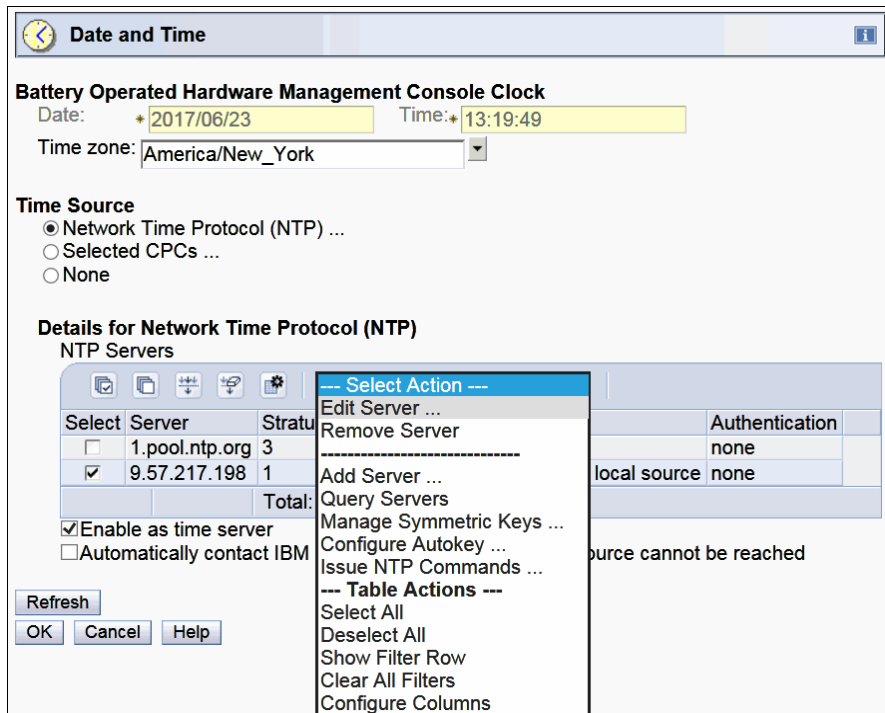

Figure 8-18 Selecting the Edit Server option
9. Select the server name that you want to modify and then, click **Select Action** → **Edit Server** (see Figure 8-18).